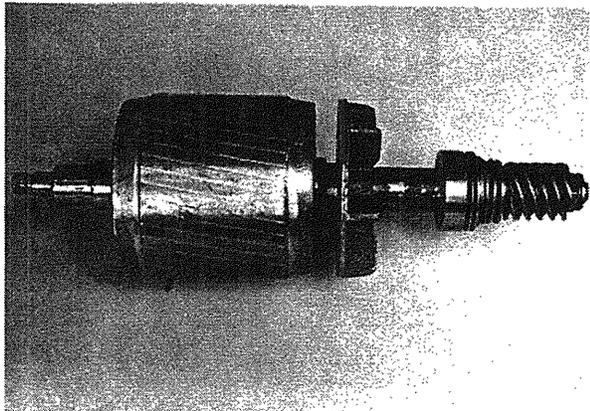

Fig. 8-5
- F. Remove rotor from stator. Rotor, worm and front bearing will come out as one assembly (Fig. 8-5).